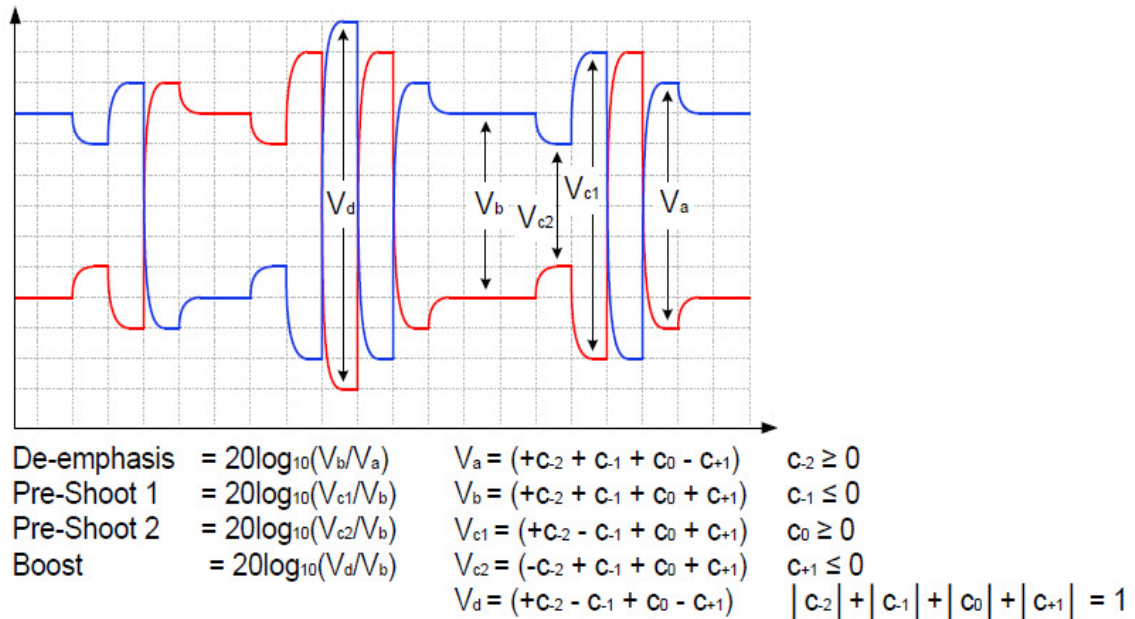

Figure 21 Waveform measurement points for preshoot and de-emphasis
64.0 GT/s PCIe signaling must support the full range of presets given in Table 8-2 (PCIe Base Specification Revision 6.0). Presets are defined in terms of ratios, relating the pre-cursor and post-cursor equalization voltages. The pre-cursor (V_c) is referred to as pre-shoot, while the post-cursor (V_b) is referred to as de-emphasis. This convention permits the specification to retain the existing 2.5 GT/s and 5.0 GT/s definitions for Tx equalization, where only de-emphasis is defined, and it allows preshoot and de-emphasis to be defined such that each is independent of the other. The tolerances in Table 8-1 (PCIe Base Specification Revision 6.0) also apply to 2.5 and 5.0 GT/s de-emphasis. The maximum swing, V_d , is also shown to illustrate that, when both c_{+1} and c_{-1} are nonzero, the swing of V_a does not reach the maximum as defined by V_d . The high frequency nature of PCIe signaling makes measurement of single UI pulse heights impractical. Consequently all amplitude measurements are made with low frequency waveforms as shown in Figure 21.
- 13 Computes their equalization voltages by using Matlab, and then calculates equalization ratios by using the formulae stated in Figure 21 (Figure 8-6 of the spec).